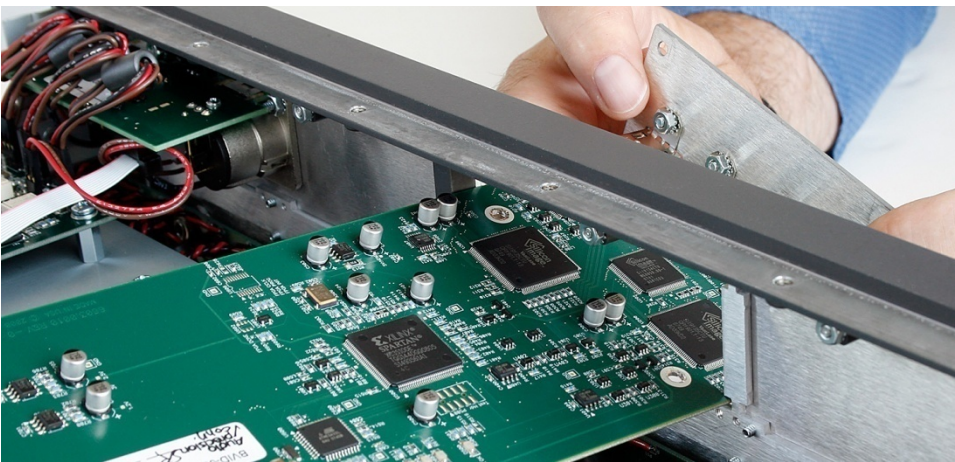

Figure 4 Removing the old HDMI module
10. Slide the old HDMI module out the front of the instrument. Note that it will be necessary to tilt it, as shown in Figure 4, to clear the front panel.
11. Insert the new HDMI module through the front panel, tilting it as shown in Figure 4. Push the end of the card into the connector, and replace the four circuit board screws and the four front panel screws.